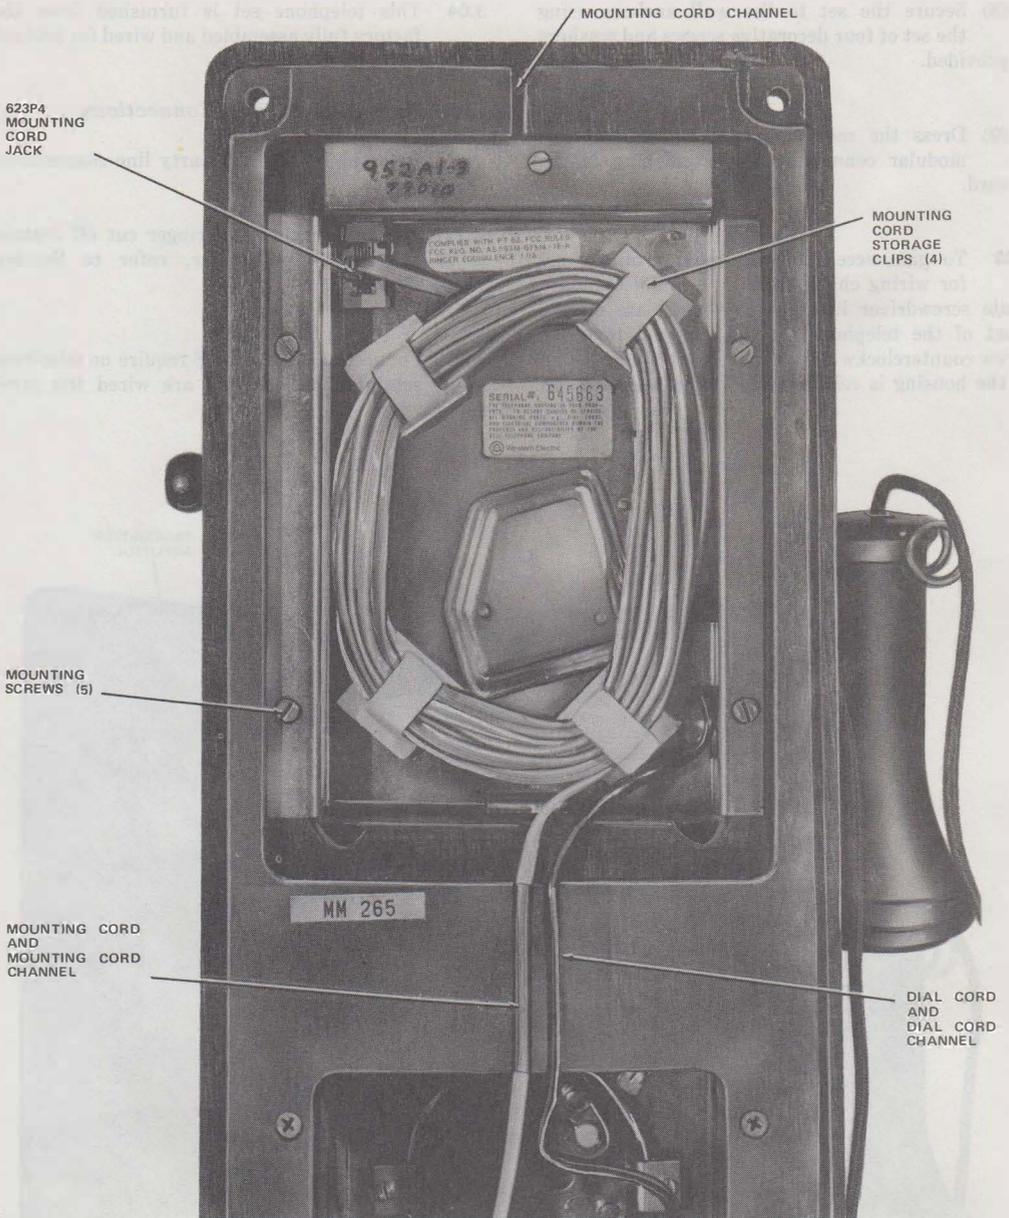

Fig. 2—952A1-03 Telephone Set, Rear View
- (1) Place the mounting template (shipped with set) over the modular outlet and level it.
- (2) Mark two upper and lower mounting holes on each corner of the template.
- (3) Drill four 5/16-inch diameter holes and install the wall screw anchors provided.
- (4) Remove and discard the four screws used to install the wall anchors.
- (5) Wind up the excess mounting cord on the four plastic hooks on the rear of the set. Leave about six inches of cord loose (Fig. 2).
- (6) Plug in the end of the mounting cord and secure the set to the wall anchors using the four decorative screws and washers provided.
- (1) Make sure the intended mounting location will allow the 14-foot mounting cord to reach the telephone outlet.
- (2) Place the template at a convenient height and level it.
- (3) Mark the two upper and lower mounting holes on each corner of the template.
- (4) Drill four 5/16-inch diameter holes and install the wall screw anchors provided.
- (5) Discard the four screws used to install the wall anchors.
- (6) Wind up the excess line cord on the four plastic hooks on the rear of the set housing (Fig. 2).
- (7) Dress the mounting cord into the channel on the back of the telephone set (Fig. 2).